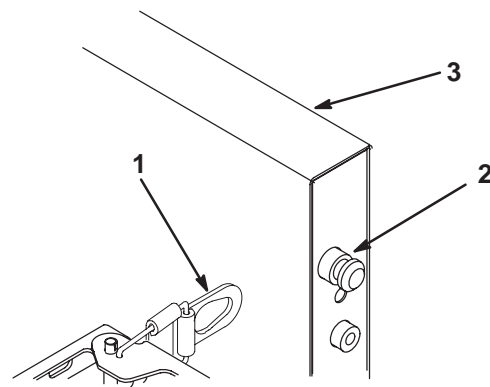

Figure 6
12. Open tailgate latch assemblies and hook latch plates over upper tailgate pins on both sides (Fig. 6). Make sure that the latch plates are seated all the way in the groves on the pins.